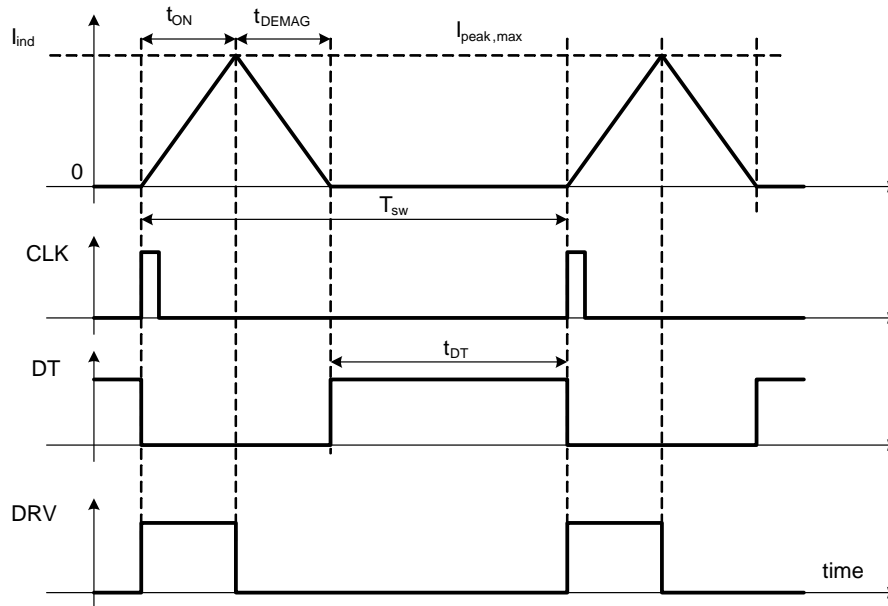

Figure 32. NCP1602 Clock, Dead Time and t_{ON} Waveforms
The **Frequency Foldback (FF)** system adjusts the on-time versus t_{DT} (see Figure 32) and the output power in order to ensure that the instantaneous mains current is in phase with the mains instantaneous voltage (creating a PF=1).